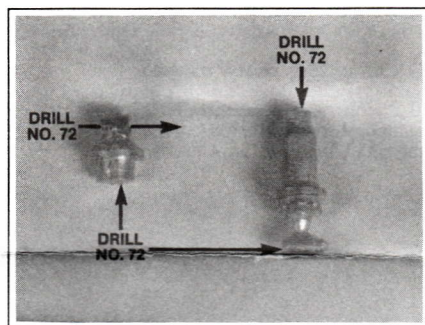

Figure 3
C. Assemble the coilover shocks. Drill .025" diameter (No. 72) holes all the way through the upper shock mount and part way through the lower shock mount. Drill the same diameter hole in the lower and upper shock body. Be careful to align the holes so they are straight along the centers of both parts, and don't drill too deeply. See Figure 3.